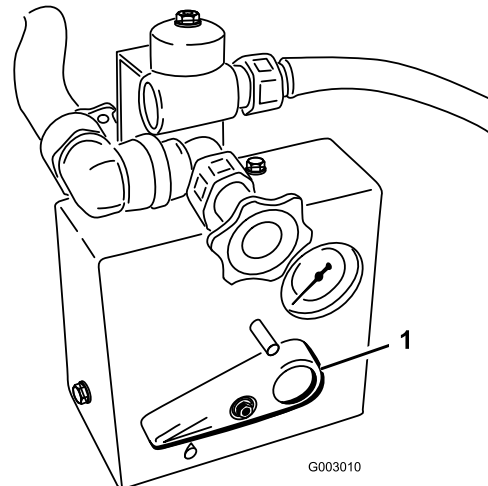

Figure 21
3. Move the control handle counter-clockwise, pointing rearward (Figure 21).